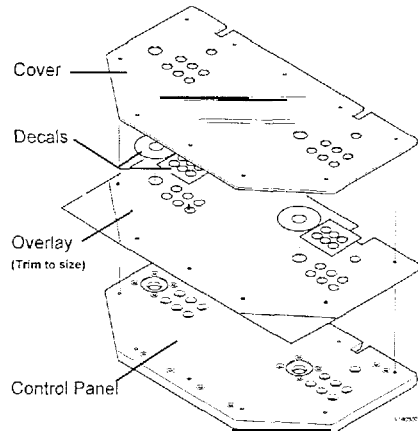

Figure 1: Overlay Installation
6. If there is an additional Control Panel Cover, figure 1 (such as plastic or lexan) that will be utilized cut any additional holes using the same template.
#### CONTROL PANEL OVERLAY INSTALLATION (See Figure 1)
13. Install the control panel cover, figure. 1. (If required).